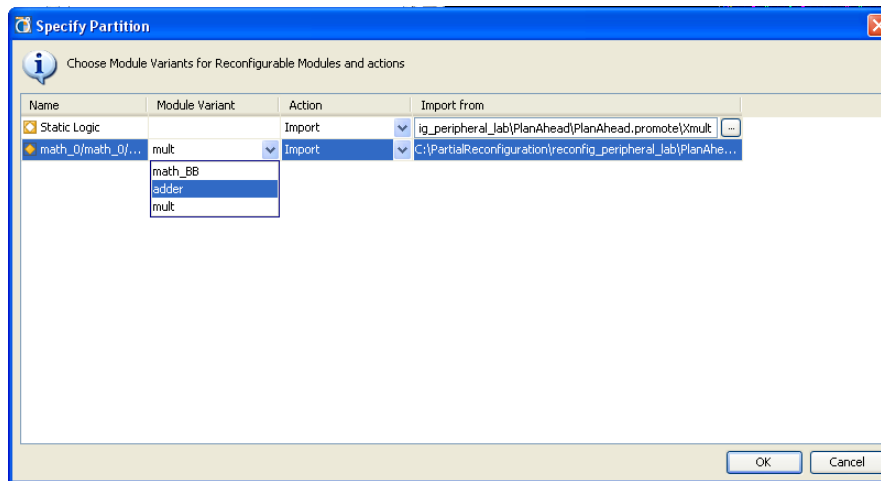

Figure 28: Selecting adder Module Variant
8. For the `rp_instance` row, click the Module Variant column drop-down arrow, and select **adder** as the variant to be implemented (Figure 28).